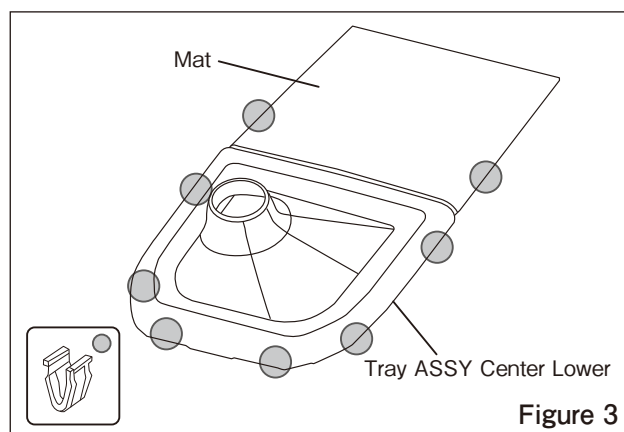

Figure 3
- (3) Remove the Mat from the Tray ASSY Center Lower (Figure 3)